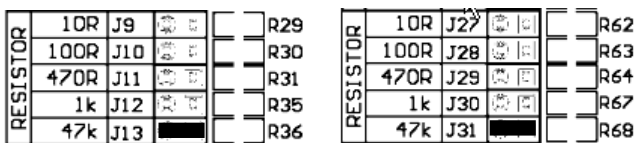

Figure 2: Left and right channel jumper banks default setting for resistance load adjustments
There are five (5) different settings available for setting the resistive load; 10Ω, 100Ω, 470Ω, 1kΩ and 47kΩ which are represented by jumper sockets J9, J10, J11, J12 and J13 respectively for the left channel and jumper sockets J27, J28, J29, J30 and J31 for the right channel (refer to figure 2). The factory default setting is 47kΩ, therefore jumpers will be found in sockets J13 & J31.